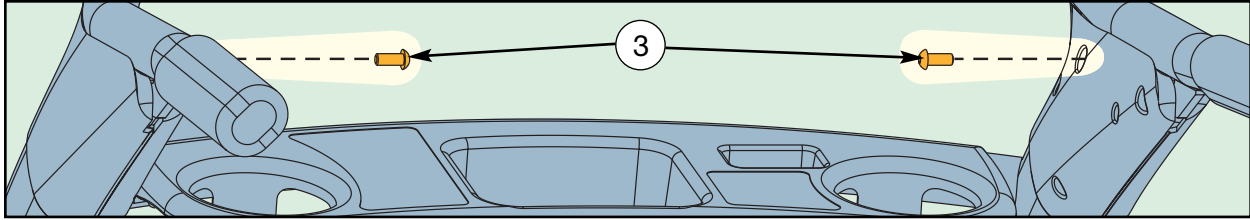

Figure 8
- A. Using the hex key provided, secure the handrail with two 5-16-18 x 7-8 screws. See Figure 8. **NOTE:** You may need to lift the console slightly to line up the holes.